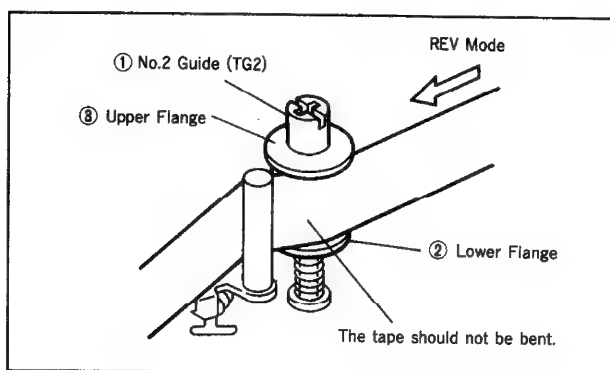

Fig. 40
### 5-3-2. No. 2 GUIDE (TG2) ADJUSTMENT (Fig. 40, 41)
- 2) Confirm that the tape is not bent at the lower flange ② of the No.2 guide (TG2) ① (Fig. 40). If it is, turn the upper flange ③ of the No.2 guide (TG2) clockwise with a screwdriver, lowering it until the tape is straightened.